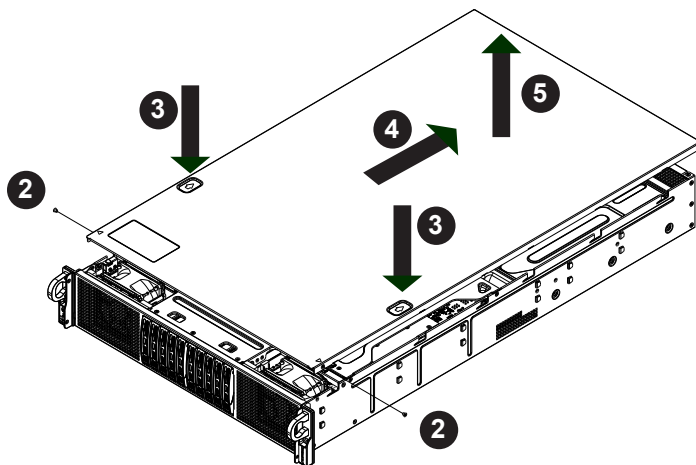

Figure 3-1. Removing the Chassis Cover
5. Lift the cover up and off of the chassis. See Figure 3-1.